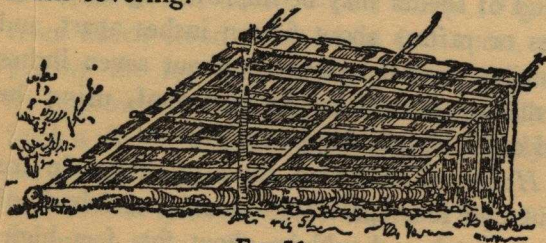

FIG. 56.
*The Open "Lean-to."*—Place two crotched sticks for the front, about seven feet high; lay a pole across these (Fig. 56). Against this cross bar lean three strong poles, and secure them at the lower end by pushing them well into the earth or by pinning them down with crotched sticks hooking over the poles and driven into the ground. Over these poles lay cross sticks to support the bark or brush covering.